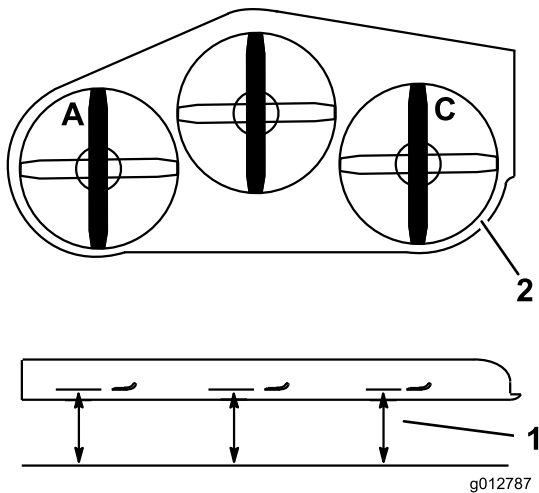

Figure 84
1. Position the left blade front-to-rear (Figure 84).
2. Measure the left blade at the **A** location, from a level surface to the cutting edge of the blade tip and record this measurement (Figure 84).
3. Position the right blade front-to-rear (Figure 84).
4. Measure the right blade at the **C** location, from a level surface to the cutting edge of the blade tip and record this measurement (Figure 84).
2. Position the left blade front-to-rear (Figure 84).
3. Measure the left blade at the **A** location, from a level surface to the cutting edge of the blade tip and record this measurement (Figure 84).
- Position the right blade front-to-rear (Figure 84).
- Measure the right blade at the **C** location, from a level surface to the cutting edge of the blade tip and record this measurement (Figure 84).